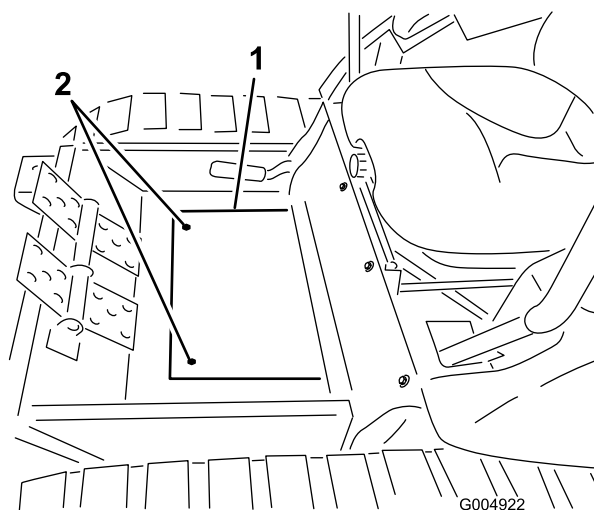

Figure 72
3. Remove the two capscrews securing the floor plate cover and remove the cover (Figure 72).